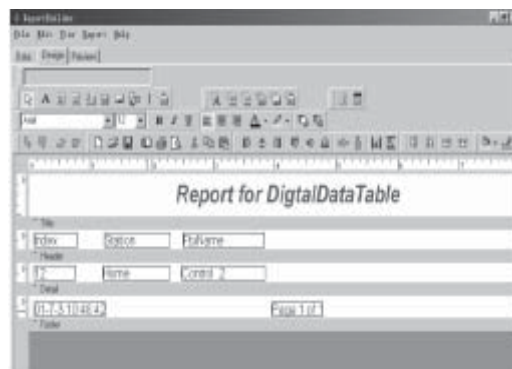
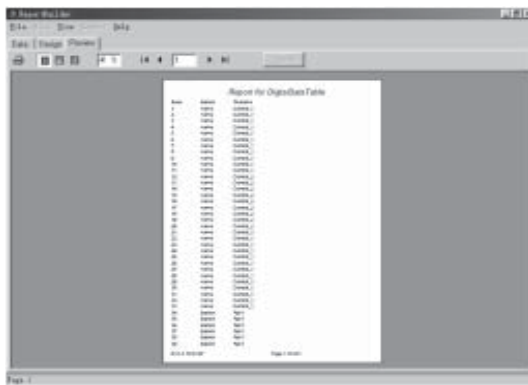

Fig. 8-16 Design the Date and the Page Code
Fig. 8-17 Preview the Report
3.4 Design the Pin Part of the Report: For example, as in Fig. 8-16, set the system variable as $i^{\circ}DateTime_{i\pm}$, $i^{\circ}PageSetDesc_{i\pm}$.
4. Preview the Report: Select and click the page key $i^{\circ}Preview_{i\pm}$ as in Fig. 8-16. And the diagram as in Fig. 8-17 will be displayed.